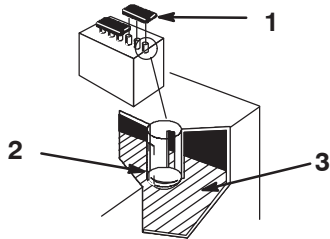

Figure 67
1. Open covers to see into the cells. The electrolyte must be up to the lower part of the tube (Fig. 67).
Important Do not allow the electrolyte to get below the plates. (Fig. 67).
2. Lift off the filler caps (Fig. 67).
3. Slowly pour distilled water into each battery cell until the level is up to the lower part of the tube (Fig. 67).